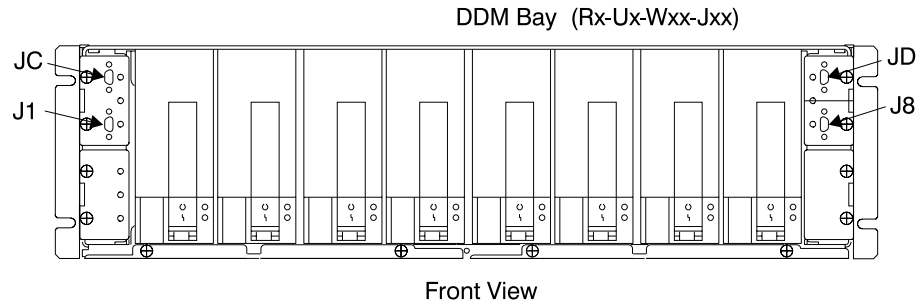

Figure 48. DDM bay SSA Connector Locations (S007693l)
6. Verify that the SSA cables are connected correctly. Locate all of the three SSA cables displayed by the service terminal as possible FRUs. These SSA cables will each be connected between a DDM bay and an SSA device card. The service terminal FRU Location will identify the DDM bay and SSA connector where each end of the SSA cable is connected. To locate the DDM bay see "Locating a DDM Bay or SSA DASD Model 020 or 040 Drawer in a 2105 Rack" in chapter 7 of the *Enterprise Storage Server Service Guide, Volume 3*. To locate SSA cable connectors on a DDM bay, see Figure 48 on page 123.